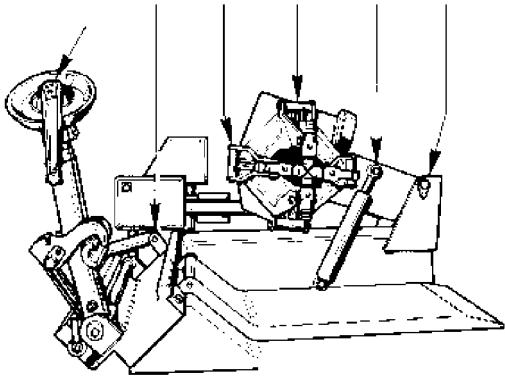

Fig.52
1. Lubricate all points provided once a month (fig.52).